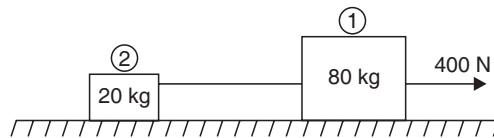

Fig. 8.5
**Sol.** Refer to Figs. 8.5 and 8.6